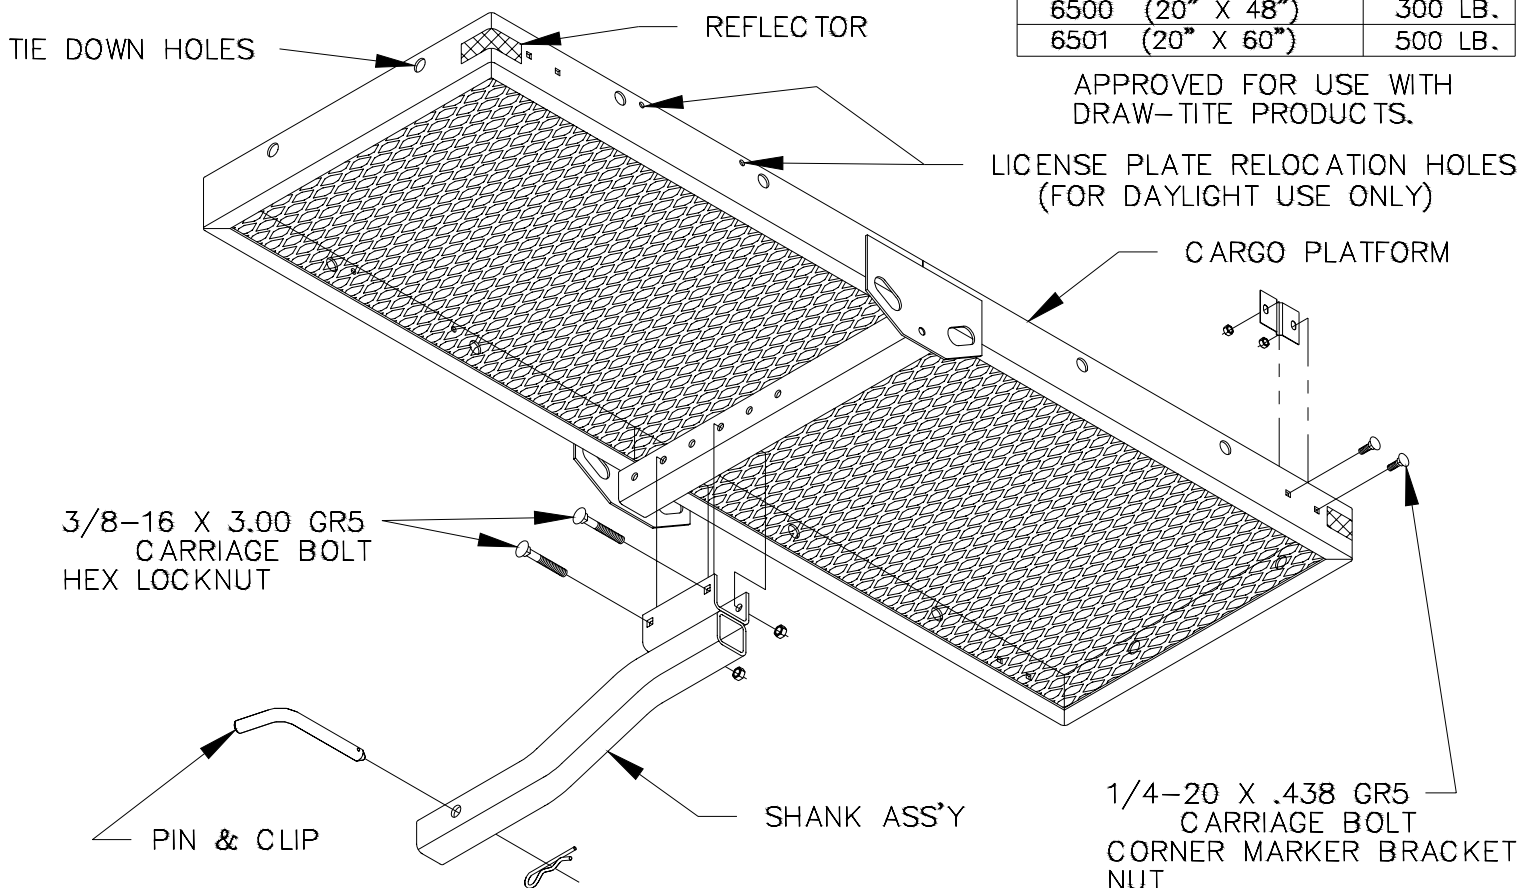

FIGURE 1
3. INSTALL SHANK ASS'Y FASTENERS AS SHOWN IN FIGURE 1 AND TIGHTEN TO 20 LB-FT.
4. APPLY REFLECTORS TO REAR CORNERS OF CARGO PLATFORM AS SHOWN IN FIGURE 1.
5. INSTALL CORNER MARKER BRACKETS AND FASTENERS AS SHOWN IN FIGURE 1.
- FOR DAYLIGHT, RELOCATE LICENSE PLATE TO HOLES PROVIDED, SEE FIG 1.